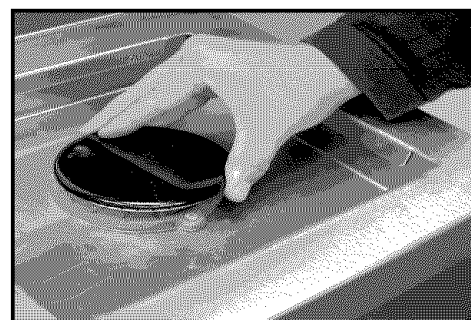

Fig. 7
3. Place the Black Circle on top of the one Burner. (Repeat Step for second burner.) (See Fig. 7)